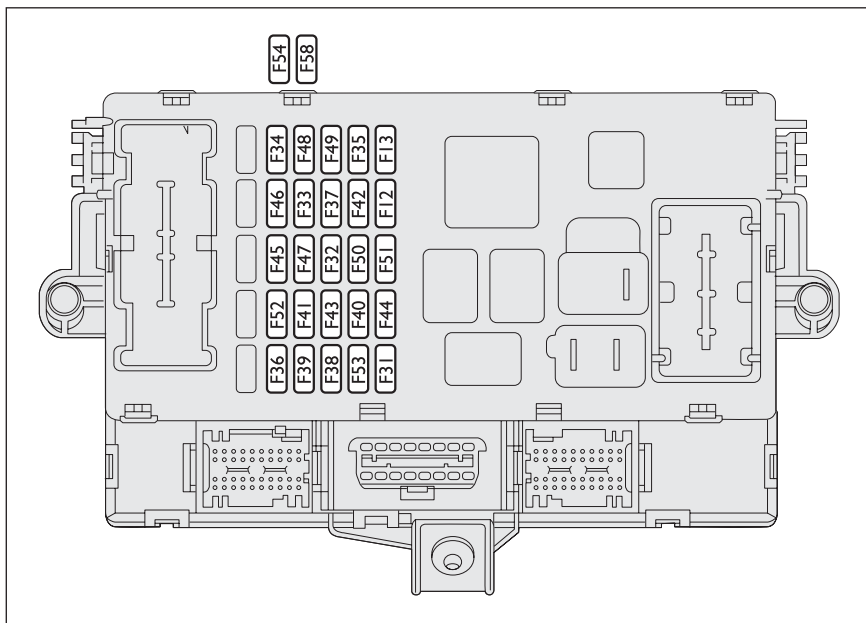

fig. 37
### Dashboard fusebox fig. 37
**Optional fusebox (on auxiliary bracket) fig. 37****USERS**